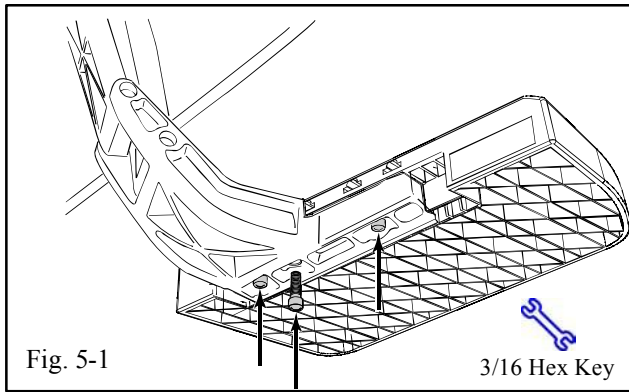

Fig. 5-1
- (1) Step Pad interface allows two positions... use position that extends step pad most outboard. (Fig. 5-1)
- (b) Insert cap screws into corresponding holes (first, second, and fourth) and torque to 8 N m (6 ft-lbs)  $\pm$ 1.5 N m. (Fig. 5-1)